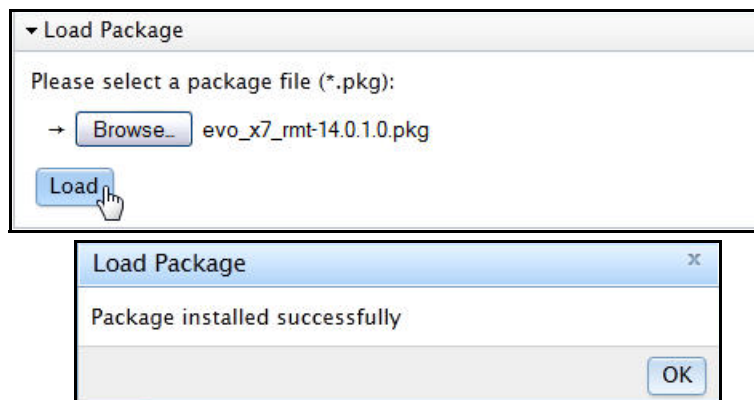

Figure 32. Load Package Status Box
5. Click Load. The Load Package status box (Figure 32) appears upon completion.